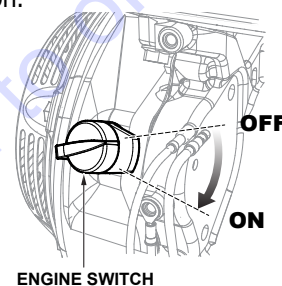

Figure 23. Engine ON/OFF Switch
- Place the **Engine ON/OFF switch** (Figure 23) in the "ON" position.